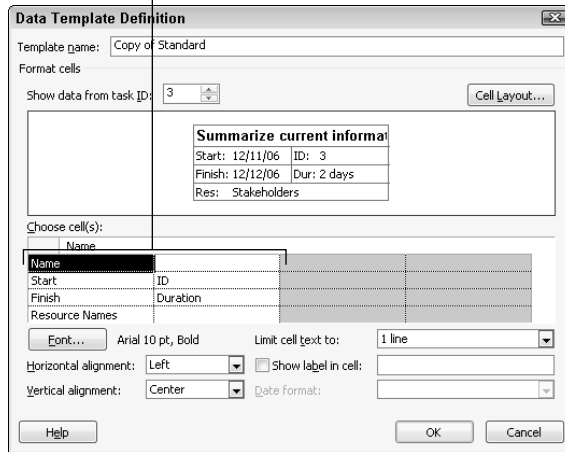

Figure 2-22: Use this dialog box to change the content of Network Diagram boxes.
5. To change the contents of a cell of the box, click the corresponding cell in the Choose Cell(s) section of the dialog box (see Figure 2-22).
In Figure 2-22, the cell containing the task's start date also contains the field label.
The picture at the top of the Data Template Definition dialog box presents a preview of the structure of the box. In Figure 2-22, you see six fields of information, but the box actually contains eight cells; because the top and bottom row of the box each contain only one piece of information, the template merges the blank cells on those rows with the non-blank cells.